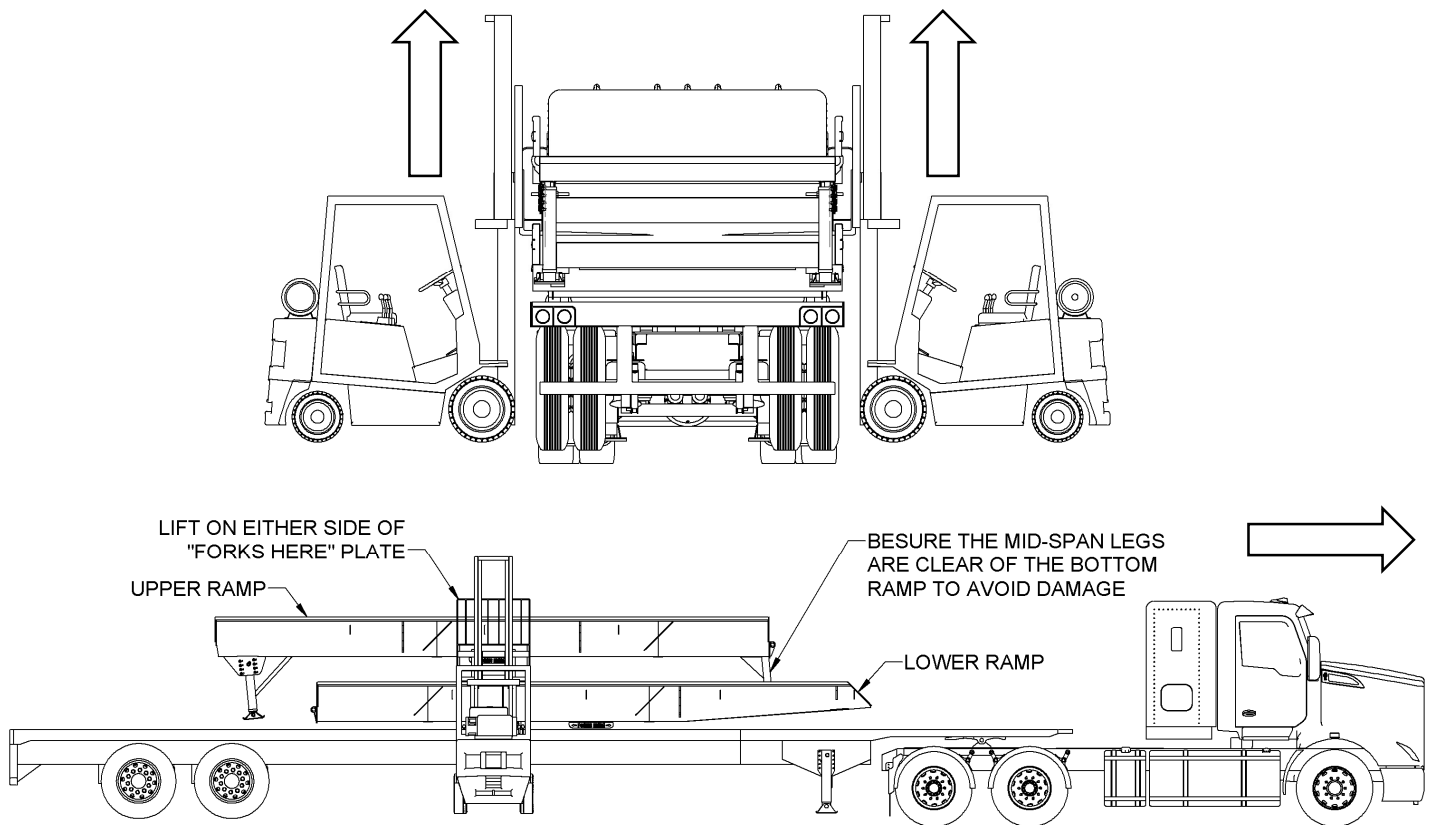

Figure 2c: Offloading with 2 Forklifts
- c. **TWO FORKLIFTS:** Position a forklift on either side of the ramp. Fully insert forks on either side of the "FORKS HERE" tab, so that the full width of the ramp is fully supported. Starting with the upper ramp, lift the ramp just high enough so there is no contact with the lower ramp or trailer and verify the stability of the load. Once the ramp is clear of the lower ramp and trailer, drive the trailer forward until there is enough space to lower the ramp to the ground. Repeat for the lower ramp. **NOTE: Figure 2c shows the lifting of the upper weldment. The lower weldment is lifted in a similar manner.**